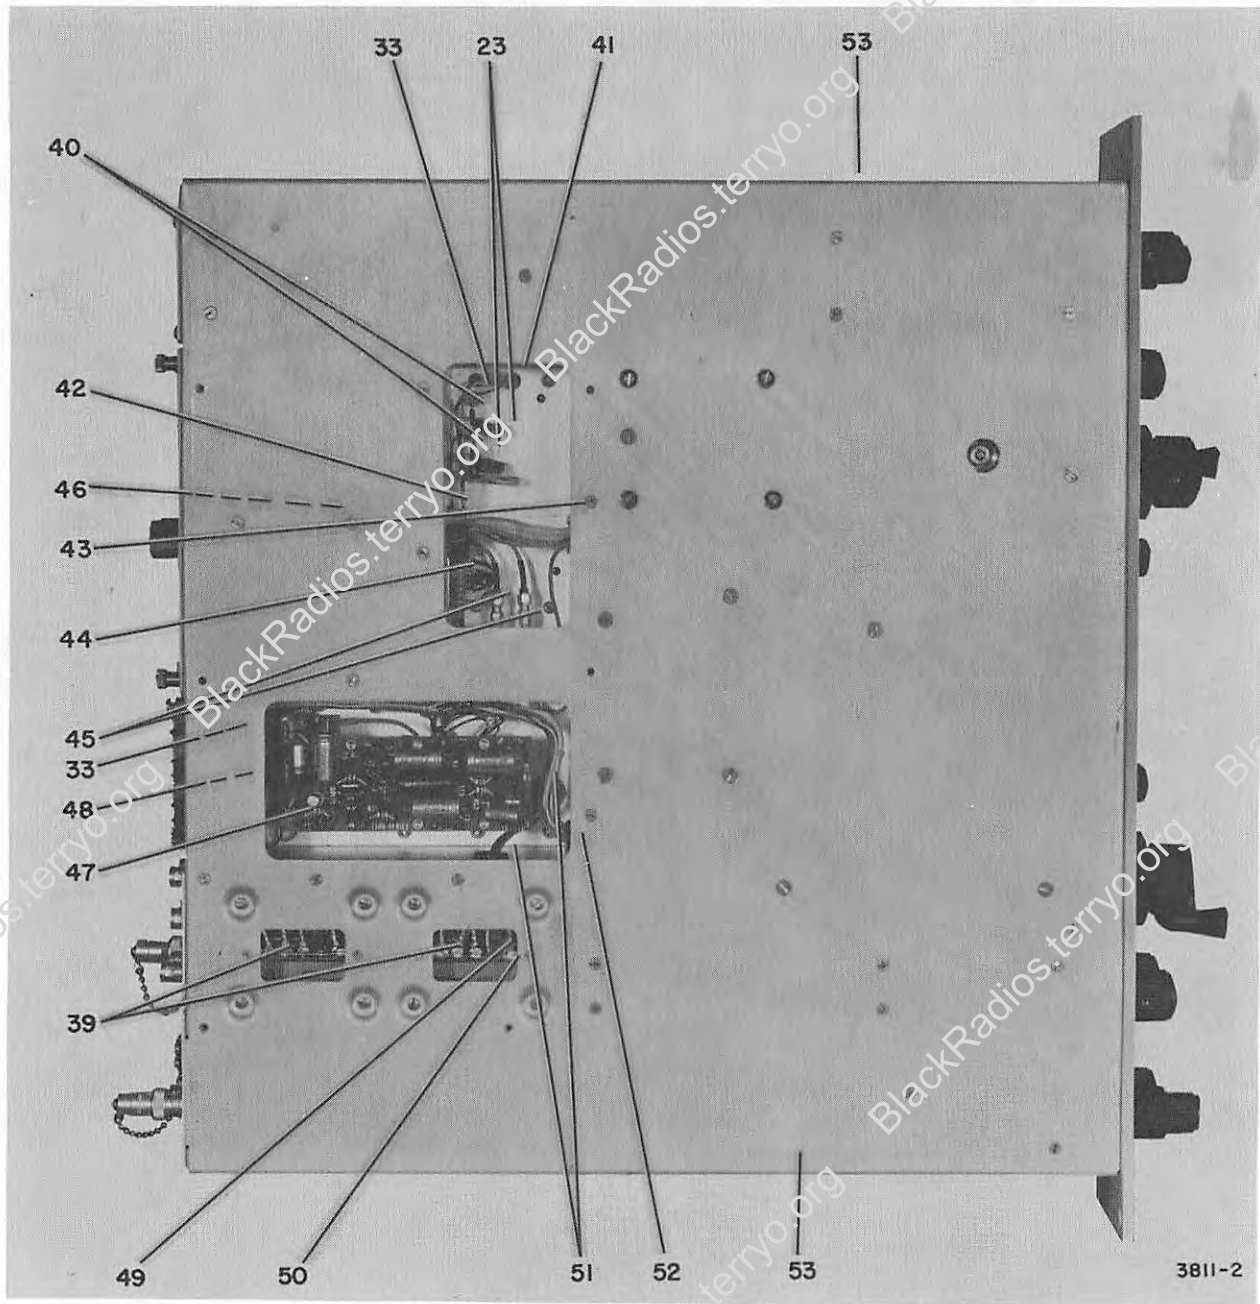

FIGURE 6-2 R1555/URR-62 BOTTOM VIEW, ACCESS PANEL REMOVED
- (3) Remove the mounting screw on the bottom of the receiver (fig. 6-2).
- (4) Remove the four screw on the rear of the IF Assy that secure it to the receiver.
- (5) Slide the IF Assy straight back and completely out of the receiver main chassis.
- (1) Remove the receiver top cover.
- (2) Remove the access panel from the bottom of the receiver.
- (3) Remove the four 3rd Mixer Module mounting screws (fig. 6-2).
- (4) Lift the 3rd Mixer Module straight out of the receiver.
- (1) Carefully insert the module straight into the receiver making sure that P901 mates properly with J110.
- (2) Replace and tighten the four 3rd Mixer Module mounting screws (fig. 6-2).
- (3) Replace the bottom access panel and the top cover of the receiver.
- (3) Remove the four 2nd Mixer Module mounting screws (fig. 6-2).
- (4) Lift the 2nd Mixer Module straight out of the receiver.
- (1) Carefully insert the 2nd Mixer module into the receiver. Check to see that P501 mates properly with J101.
- (2) Replace and tighten the four 2nd Mixer module mounting screws (fig. 6-2).
- (3) Replace the bottom access panel and the top cover on the receiver.